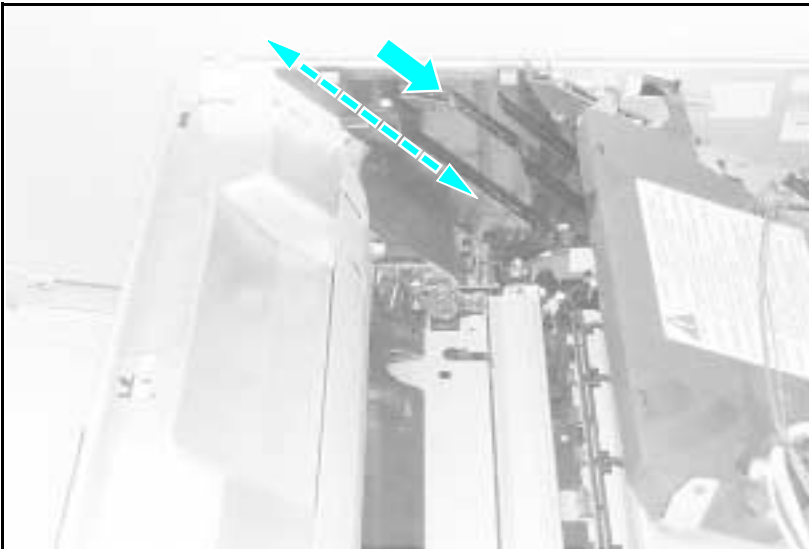

Figure 6-57 **Orientation of HVCP and Left Guide Plate**
- 2 Slide the Toner Cartridge Guide Plate into position on a diagonal line (see Figure 6-57).